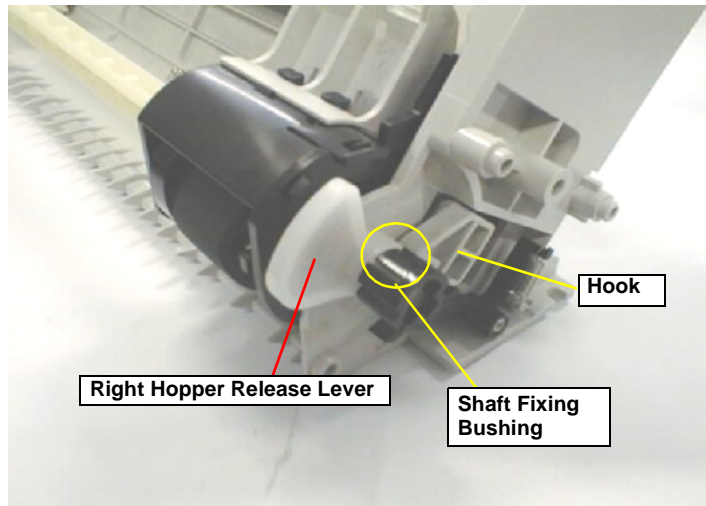

Figure 4-24.
- 2) Release the hook on the Shaft Fixing Bushing fixing to the LD Shaft and remove the Shaft Fixing Bushing and the Right Hopper Release Lever from the right edge of the LD Roller Shaft. Refer to Figure 4-24.